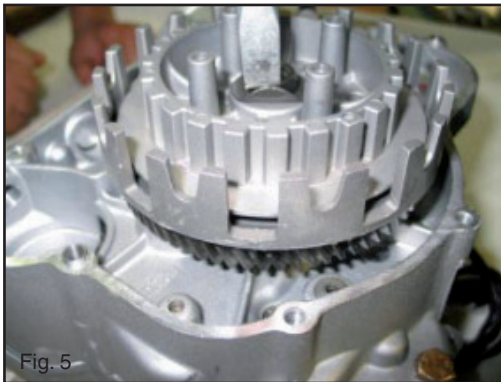

Fig. 5
- **RELEASE** the nut from its retaining tab (Fig. 5); use the suitable spanner to unscrew and remove the clutch drum fixing nut.
- **DÉGAGER** l'écrou de sa languette de maintien (Fig. 5) ; desserrer